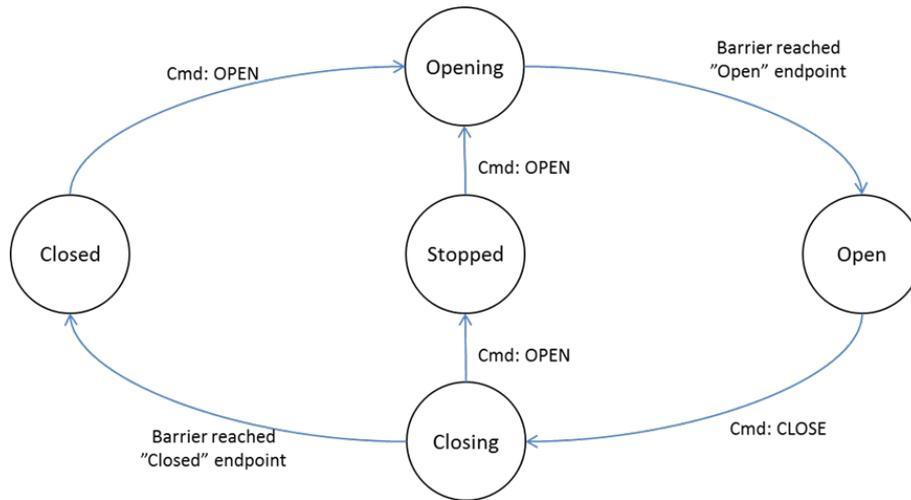

Figure 2.5: Barrier Set, state transitions
- CC:0066.01.01.11.004 A receiving node **MUST** comply with the allowed state changes and triggering commands specified in Figure 2.5. Any state/command pair not specified in Figure 2.5 **MUST NOT** cause any action.